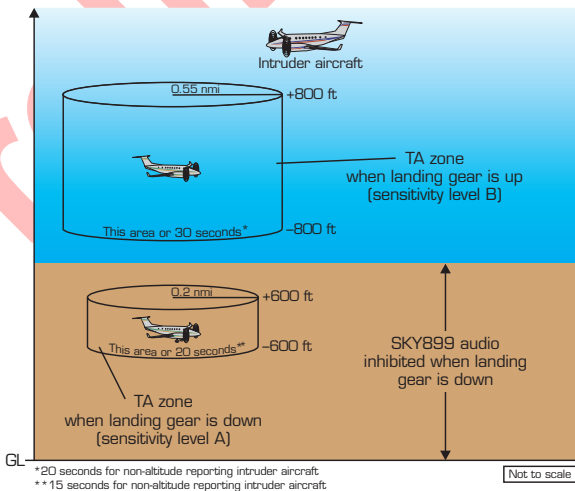

Figure 4-2. TA Zones If Your Aircraft Has No Radio Altimeter, But Does Have a Retractable Landing Gear
2. Your aircraft has no radio altimeter but its retractable landing gear is down. (See figure 4-2.) (Audio is not inhibited if you have fixed landing gear and no radio altimeter.)